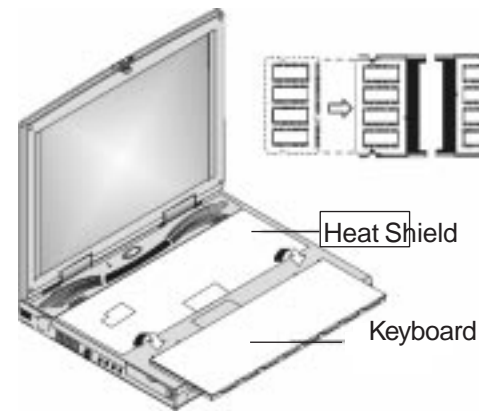

Figure 4-12: Keyboard Removal
3. Gently push the pen toward the LCD and lift the keyboard upward. Your keyboard should easily lift up and fold toward the front of the machine, as illustrated in figure 4-12.